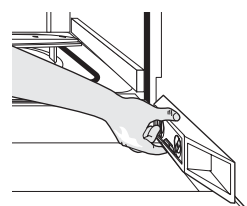

Figure 9b
7. Check that dishwasher is level from front to back by placing level on side of opened door. See Figure 9b.